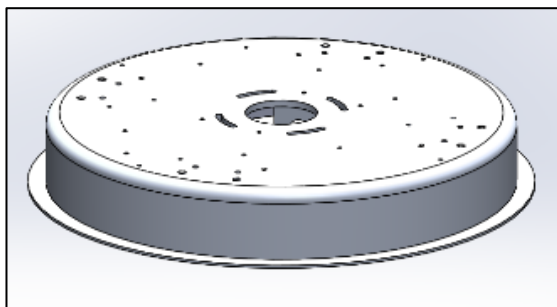

FIG. 4 - CANOPY
4. CANOPY SUBASSEMBLY (as shown in FIG. 4)